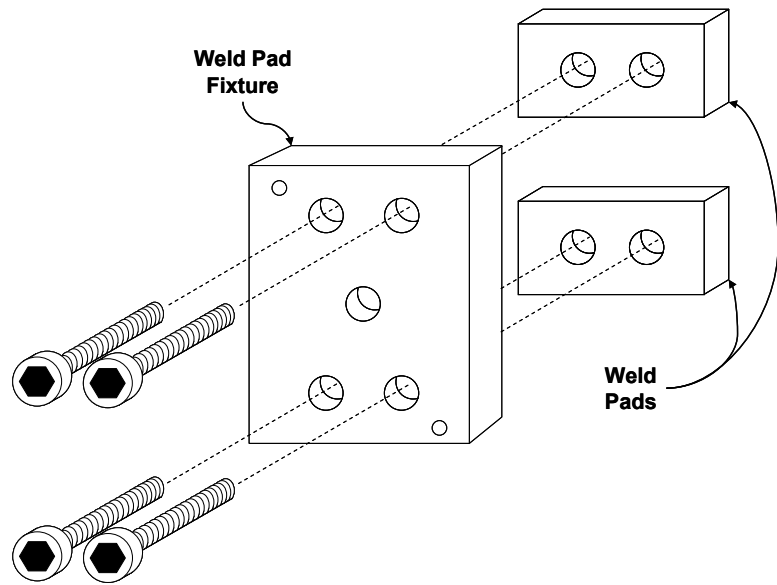

Figure 25: Weld Pad Mounting Fixture
- 4) Assemble the intermediate pads to the alignment/clamping fixture using the 1/4 x 28 bolts provided, as shown in Figure 25.